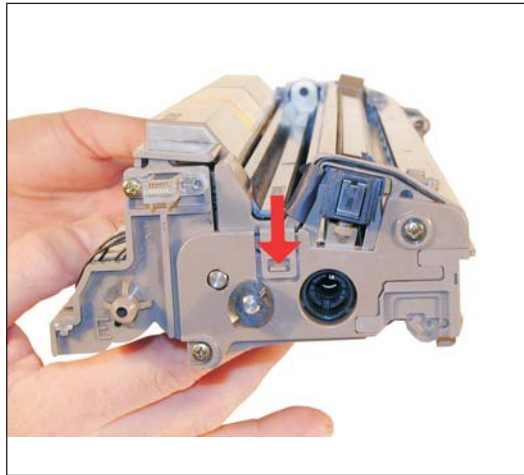

Figure 4
2) Carefully pry off the tabs on both the left and right sides. See Figure's 3 & 4 (Figure 4 on next page)